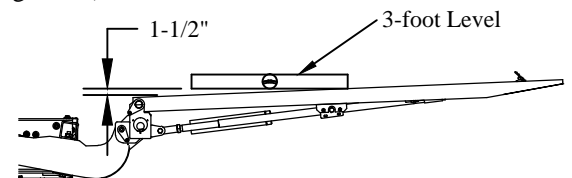

Figure 15: Platform position.
6. **Adjust** the passenger side support arm so that the platform is 1-1/2" from level over a 3-foot length (Figure 15). Adjustment similar to folding cylinder.